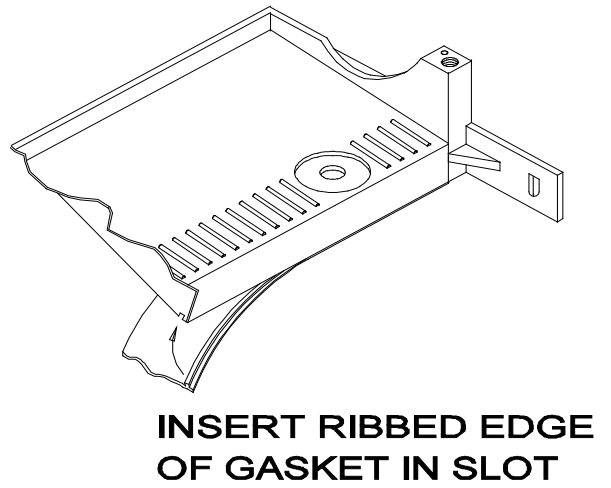

FIG. 3
6. Lay gasket flat on top evaporator frame with the ribbed edge of gasket in the slotted portion of the top evaporator frame (Fig. 3).